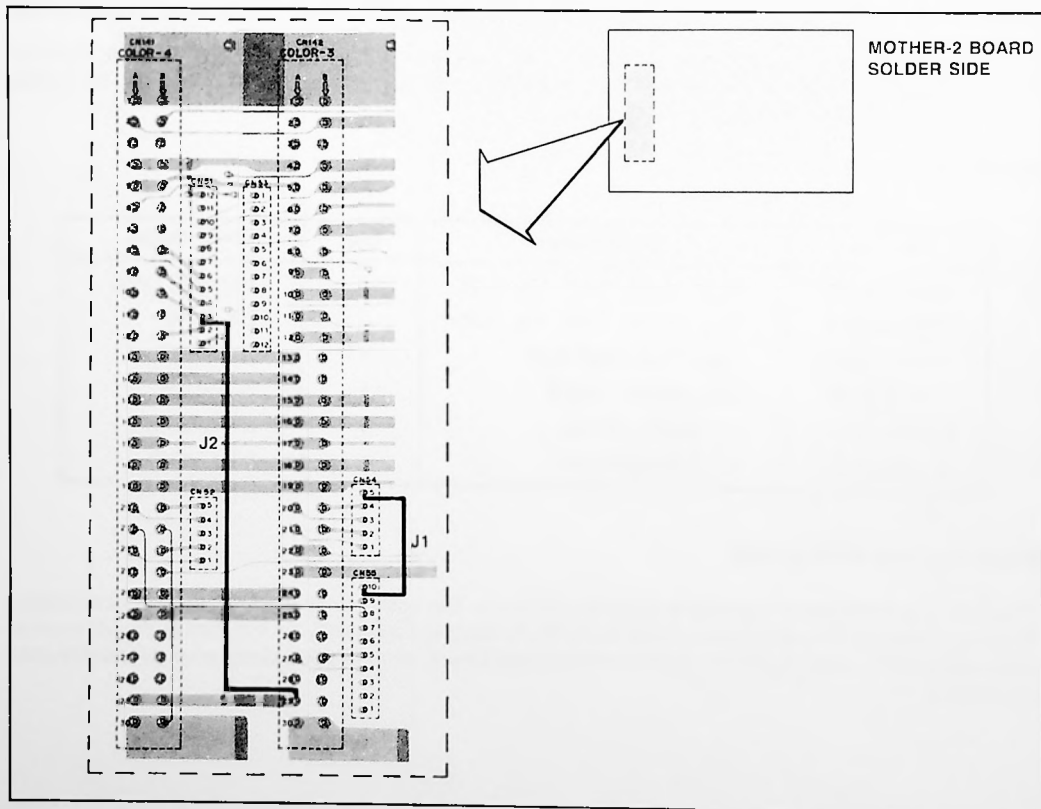

Figure 1
1. Prepare the following jumpers and solder them as follows. Figure 1 shows the jumper locations.